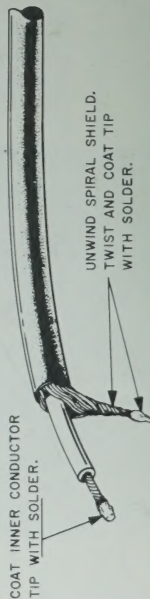

FIGURE 7
- ☒ Single conductor shielded cable. Prepare the ends as shown in Figure 7.